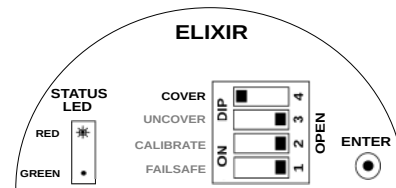

Figure 11: Cover Delay Switch Position
2. To set the Cover Delay, set the COVER switch to CLOSE position as shown in Figure 11. (CLOSE is the opposite of OPEN for a DIP switch.) The STATUS RED LED will glow.